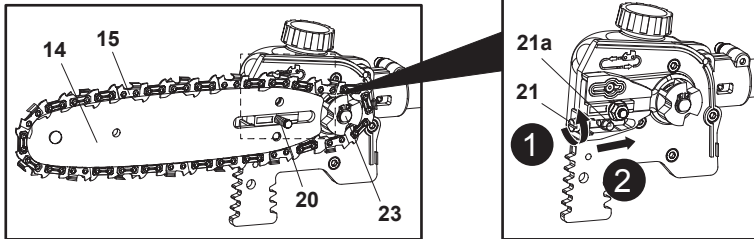

Fig. 10
**WARNING!** The direction of the saw chain 'cutters' must be same as indicated by the symbol and arrow on the guide bar (14) and also on the saw body under the pruner cover (17)!
5. Align the saw chain (15) and the guide bar (14) assembly with the drive sprocket (23) and the mounting bolt (20). Lay the saw chain (15) around the drive sprocket (23) and then lower the guide bar (14) to install it to the mounting bolt (20) (Fig. 10).
6. Make sure the tension pin (21a) is inserted into the lower hole on the guide bar (14). Screw the tension screw (21) anticlockwise to adjust the position of the tension pin (21a) towards the end of slot with the flat end of the supplied double head screwdriver (45).